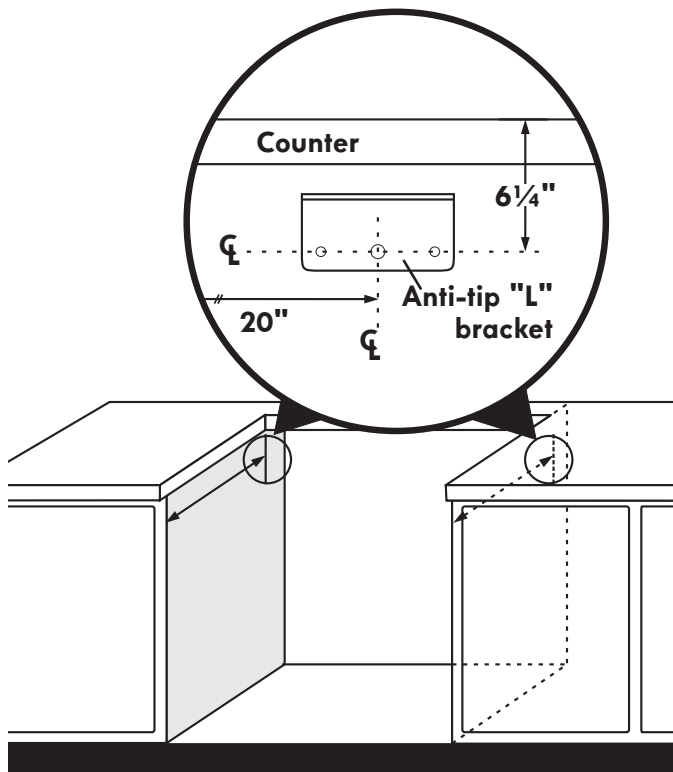

Figure 7
- A. Install the anti-tip cabinet "L" brackets as shown on Figure 7, one on each side.